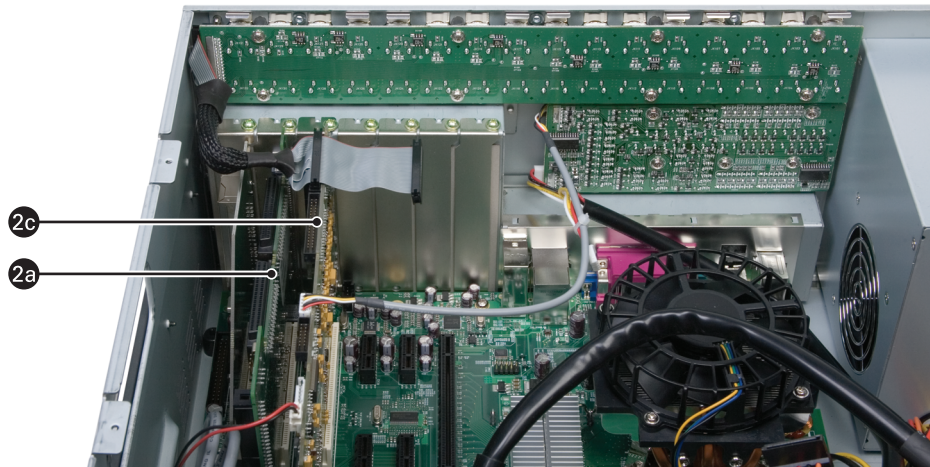

Figure 6. Installing the SCSI Card
2. Install the SCSI card into slot 2 (refer to Figure 6):